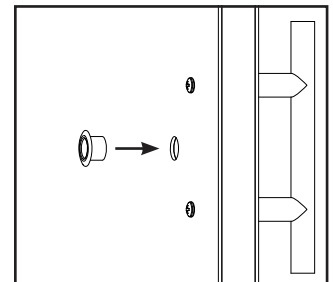

Figure 8. Pre-drilling for Finger Pull
2. Press finger pull into place as shown in figure 8